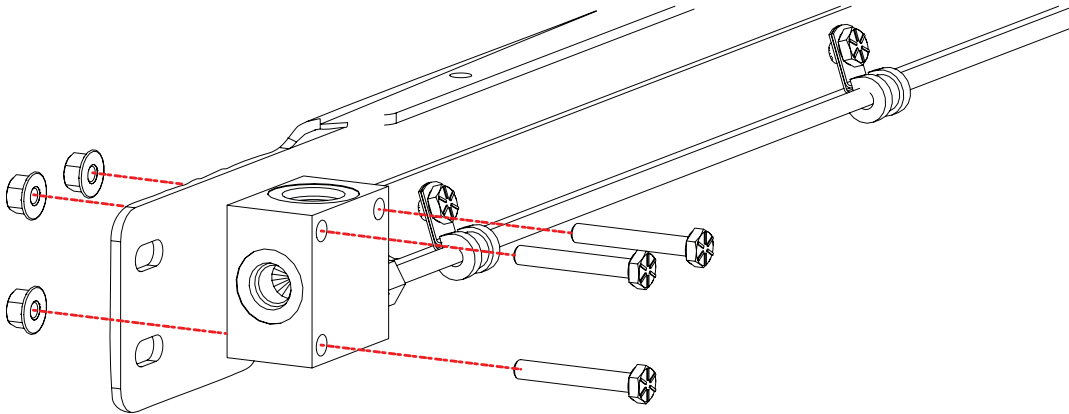

Figure 22: Install the three bolts and nuts that secure the PRD to the rail.
2. Attach the replacement PRD/Trigger Line Assembly to the rail using the original (3) bolts and nuts (Figure 22).